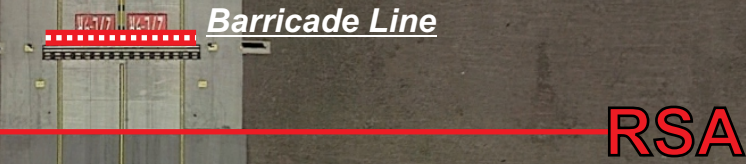

Figure 4
- 2. Low profile barricades are spaced NO MORE than 4’ apart. (Fig. 4)